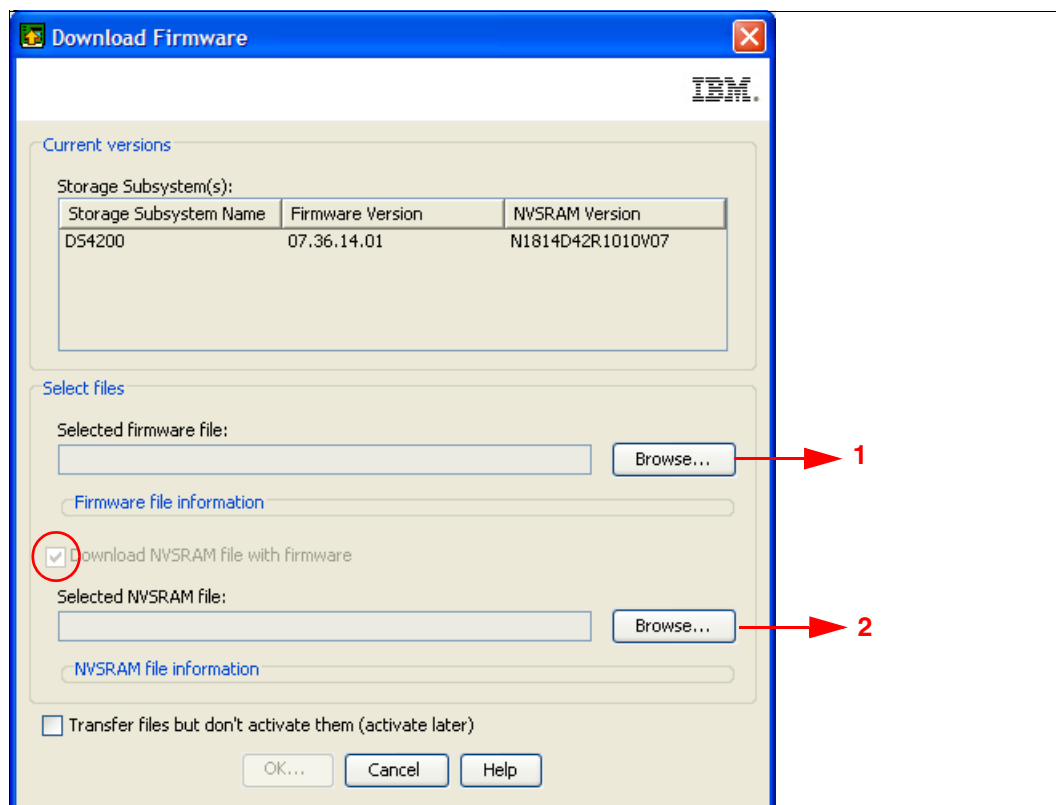

Figure 7-14 Download Firmware window
- Select the controller firmware file that you want to download by clicking **Browse** for the Selected firmware file field (marked as "1" in Figure 7-14 on page 343) to choose the file from a directory on your computer.
- Select the NVSRAM file you want to download by clicking **Browse** for the Selected NVSRAM file field (marked as "2" in Figure 7-14 on page 343) to choose the file from a directory on your computer. Leave the check mark (marked in Figure 7-14 on page 343) checked to update both, NVSRAM and firmware in one step.